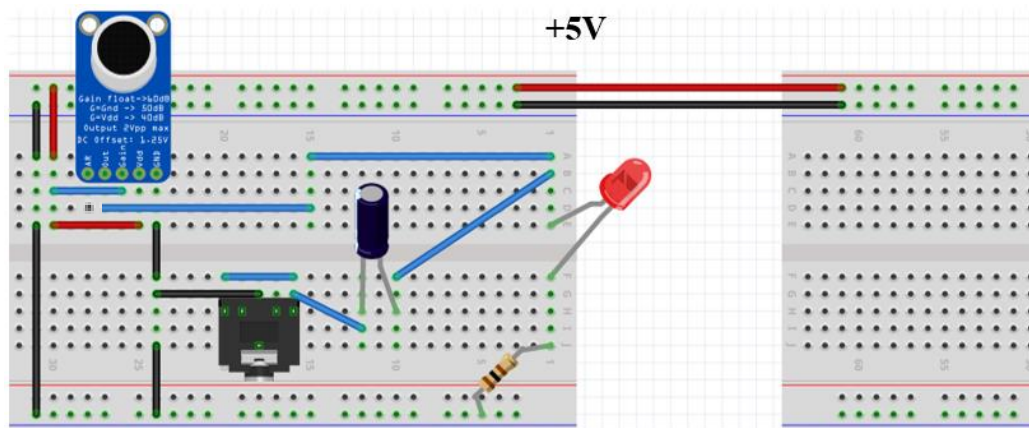

Fig. 2. Microphone-LED Circuit
2. Construct the LED and microphone circuit shown in the diagram of Fig. 2.